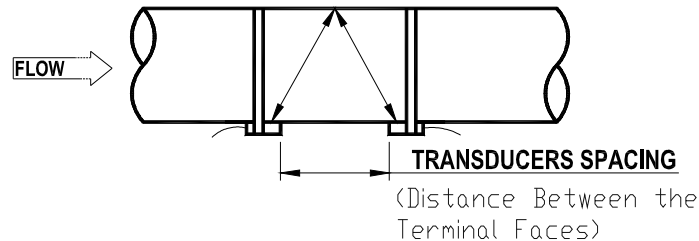

Figure 4-1 Clamp-on transducer Spacing (Distance Between the 2 Terminal Faces)
0. Standard	The distance between the corresponding terminal faces of the 2 clamp-on transducers (See figure 4-1.)
4. User Type	The distance between the corresponding terminal faces of the 2 transducers. (See figure 4-1.)